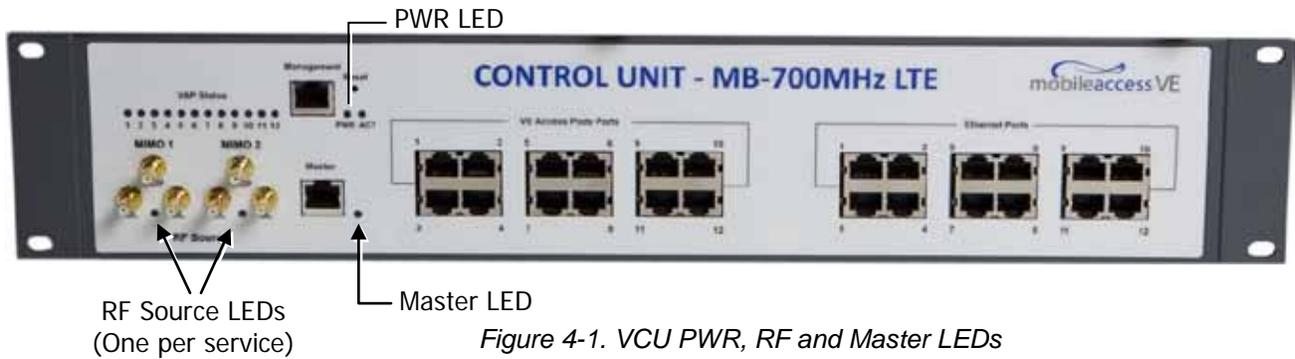

Figure 4-1. VCU PWR, RF and Master LEDs
1. Install the Slave VE Control Unit (VCU) in the Telco closet corresponding to the floor being covered. The Slave VCU can be installed in the rack using the supplied bracket. Apply power to the Slave VCUs and note that the VCU **PWR** LED is lit. Note that the unit **ACT** LED completes initialization (solid light) and shows a blinking green light. See Figure 4-1.